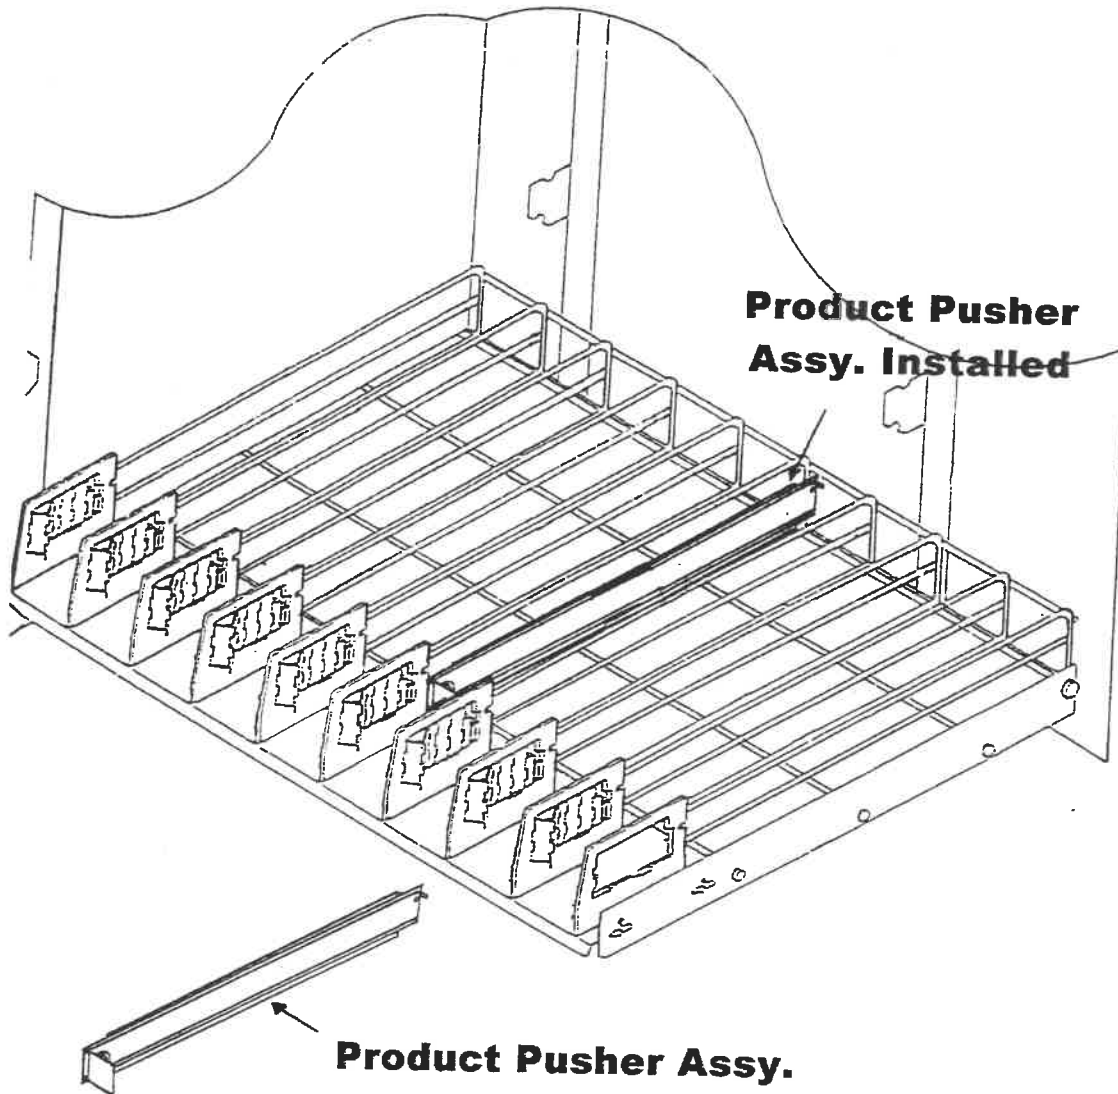

Figure 3
- 2) The product pusher assembly attaches to the middle and lower horizontal rods of the wire tray. (See figure 3.)